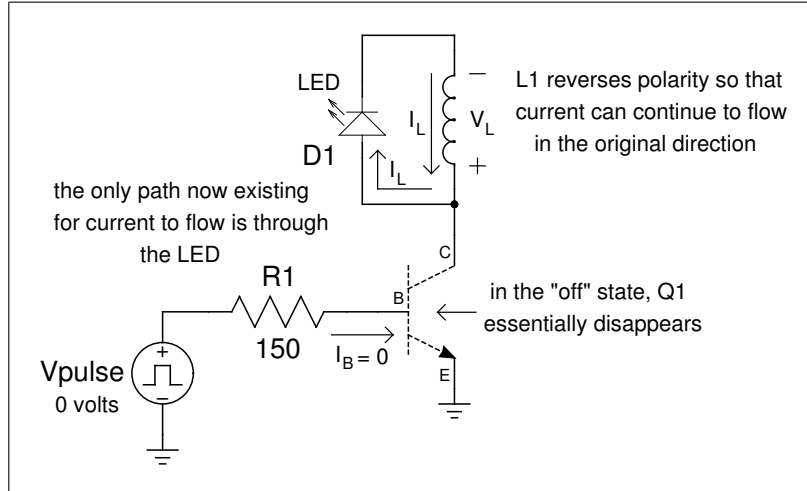

Figure 4: Flasher Circuit after V_{pulse} Transitions back to Zero Volts
In figure 4 we have the circuit after V_{pulse} has transitioned back to zero volts.
- Referring to figure 4, when V_{pulse} returns to zero volts, Q1 cuts off. While not instantaneous, the removal of current is very fast. Prior to Q1 cutting off, roughly 1 amp of current was flowing through L1. Just after Q1 cuts off, L1 reverses its polarity and rises its terminal voltage enough to maintain its current at 1 amp. For as long as its magnetic field is collapsing, L1 releases its stored energy to the LED.